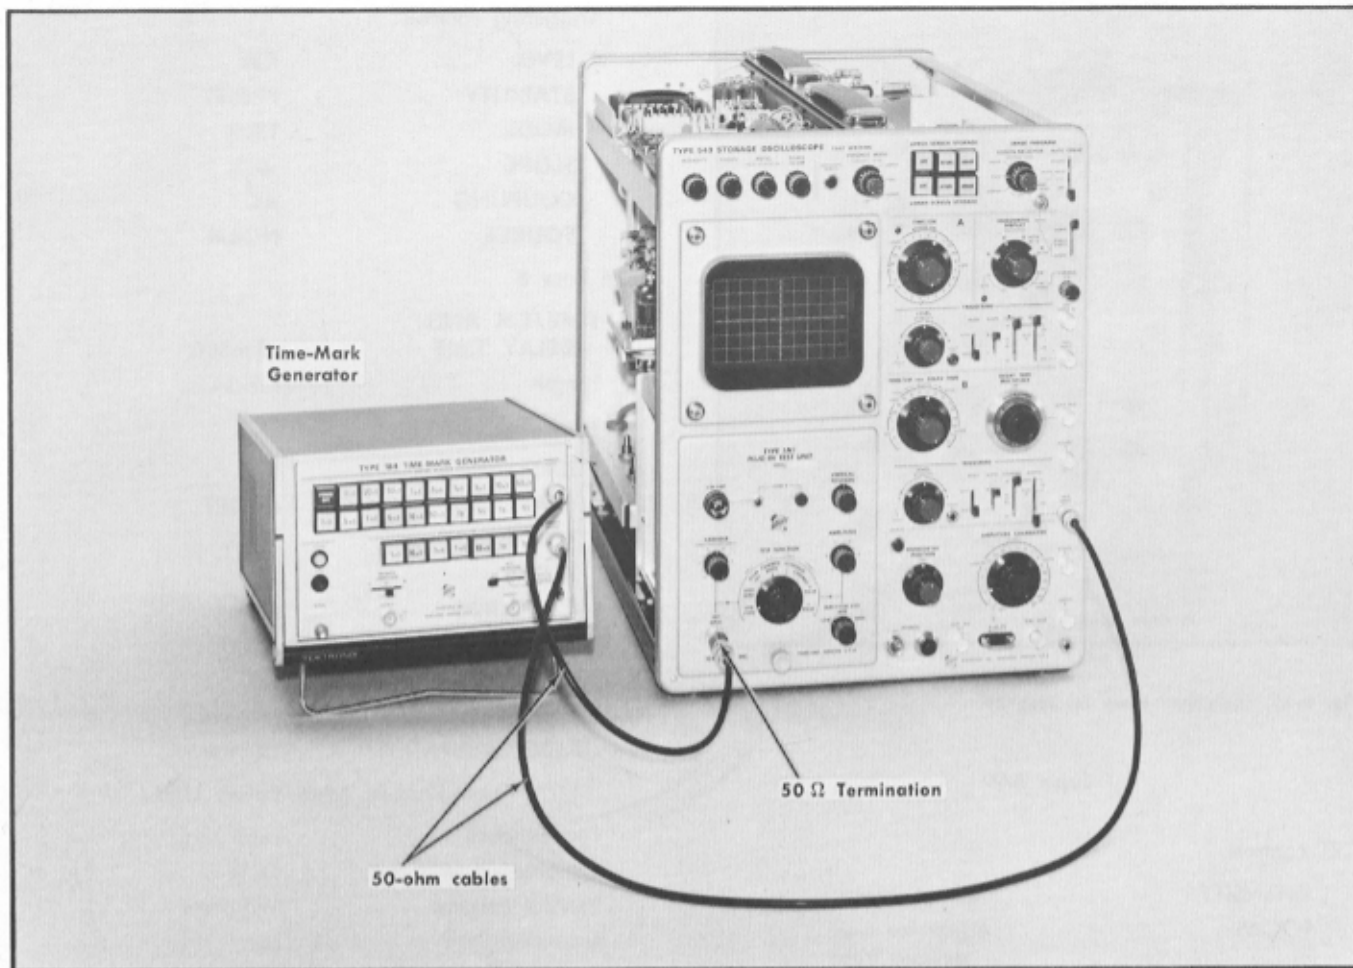

Fig. 6-22. Equipment setup for steps 26 through 32.
- a. Equipment setup is shown in Fig. 6-22.